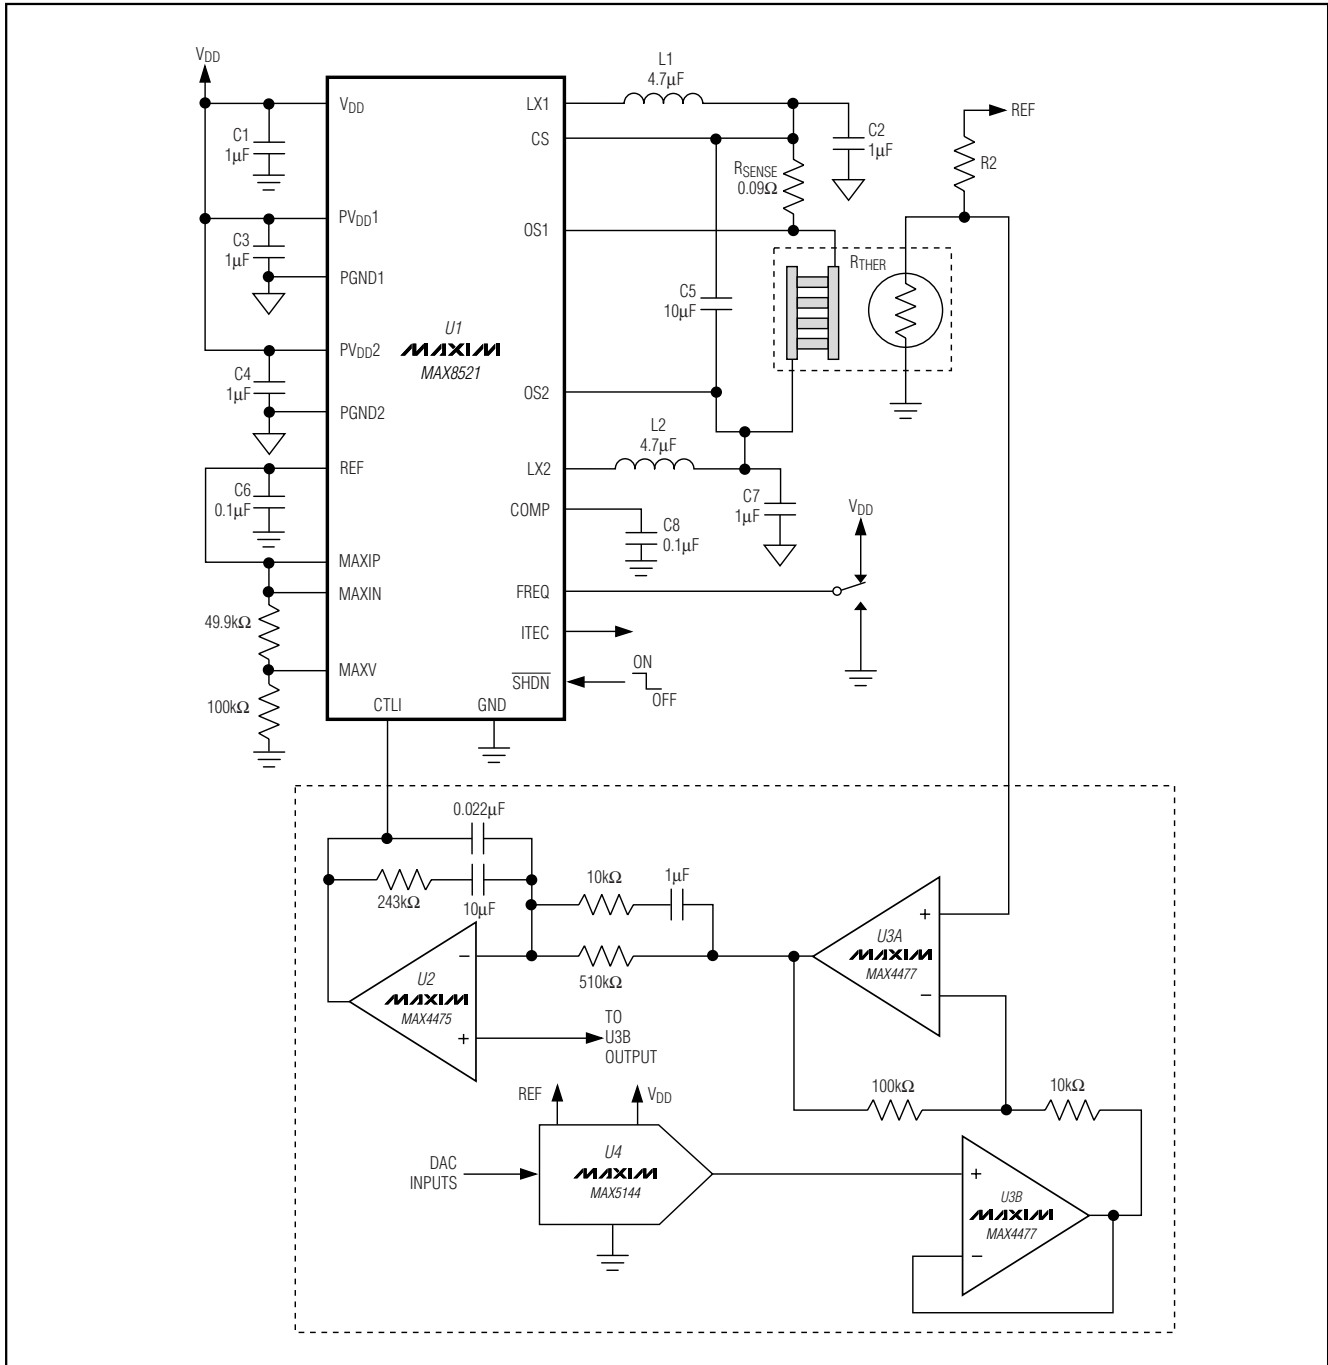

Figure 1. MAX8521 Typical Application Circuit
( $V_{DD} = 5V$ , circuit of Figure 1,  $T_A = +25^\circ C$ , unless otherwise noted)
( $V_{DD} = 5V$ , circuit of Figure 1,  $T_A = +25^\circ C$  unless otherwise noted)
(VDD = 5V, circuit of Figure 1, TA = +25°C unless otherwise noted)
The MAX8520/MAX8521 TEC drivers consist of two switching buck regulators that operate together to directly control the TEC current. This configuration creates a differential voltage across the TEC, allowing bidirectional TEC current for controlled cooling and heating. Controlled cooling and heating allow accurate TEC temperature control to within  $\pm 0.01^\circ\text{C}$ . The voltage at CTLI directly sets the TEC current. An external thermal-control loop is typically used to drive CTLI. Figures 1 and 2 show examples of the thermal control-loop circuit.
Table 1. TEC Connection for Figure 1
The MAX8520/MAX8521 include an on-chip voltage reference. The 1.50V reference is accurate to 1% over temperature. Bypass REF with 0.1 $\mu\text{F}$  to GND. REF can be used to bias an external thermistor for temperature sensing as shown in Figures 1 and 2.
The common-mode filter capacitors (C2 and C7 of Figure 1) are used as filter capacitors to ground for each output. The output ripple voltage depends on the capacitance, the ESR of these capacitors, and the inductor ripple current. Ceramic capacitors are recommended for their low ESR and impedance at high frequency.
The differential-mode filter capacitor (C5 in Figure 1) is used to bypass differential ripple current through the TEC as the result of unequal duty cycle of each output. This happens when the TEC current is not at zero. As TEC current increases from zero, both outputs move away from the 50% duty-cycle point complementarily. The common-mode ripple decreases, but the differential ripple does not cancel perfectly, and there is a resulting differential ripple. The maximum value happens when one output is at 75% duty cycle and the other is at 25% duty cycle. At this operating point, the differential ripple is equal to 1/2 of the maximum common-mode ripple. The TEC ripple current determines the TEC performance, because the maximum temperature differential that can be created between the terminals of the TEC depends on the ratio of ripple current and DC current. The lower the ripple current, the closer to the ideal maximum. The differential-mode capacitor provides a low-impedance path for the ripple current to flow, so that the TEC ripple current is greatly reduced. The TEC ripple current can then be calculated as follows:
There are numerous ways to implement the thermal loop. Figures 1 and 2 show designs that employ precision op amps, along with a DAC or potentiometer to set the control temperature. The loop may also be implemented digitally, using a precision A/D to read the thermistor or other temperature sensor, a microcontroller to implement the control algorithm, and a DAC (or filtered-PWM signal) to send the appropriate signal to the MAX8520/MAX8521 CTLI input. Regardless of the form taken by the thermal-control circuitry, all designs are similar in that they read temperature, compare it to a set-point signal, and then send an error-correcting signal to the MAX8520/MAX8521 that moves the temperature in the appropriate direction.
6) To ensure high DC loop gain and minimum loop error, keep the board layout adjacent to the negative input pin of the integrator (U2 in Figure1) clean and free of moisture. Any contamination or leakage current into this node can act to lower the DC gain of the integrator, which can degrade the accuracy of the thermal loop. If space is available, it can also be helpful to surround the negative input node of the integrator with a grounded guard ring.